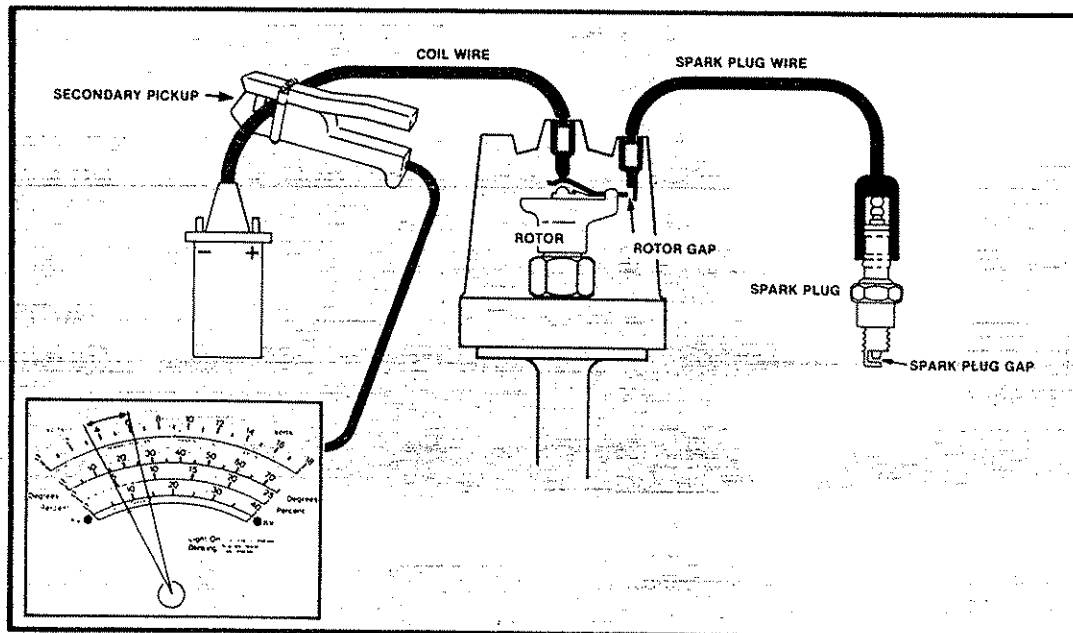
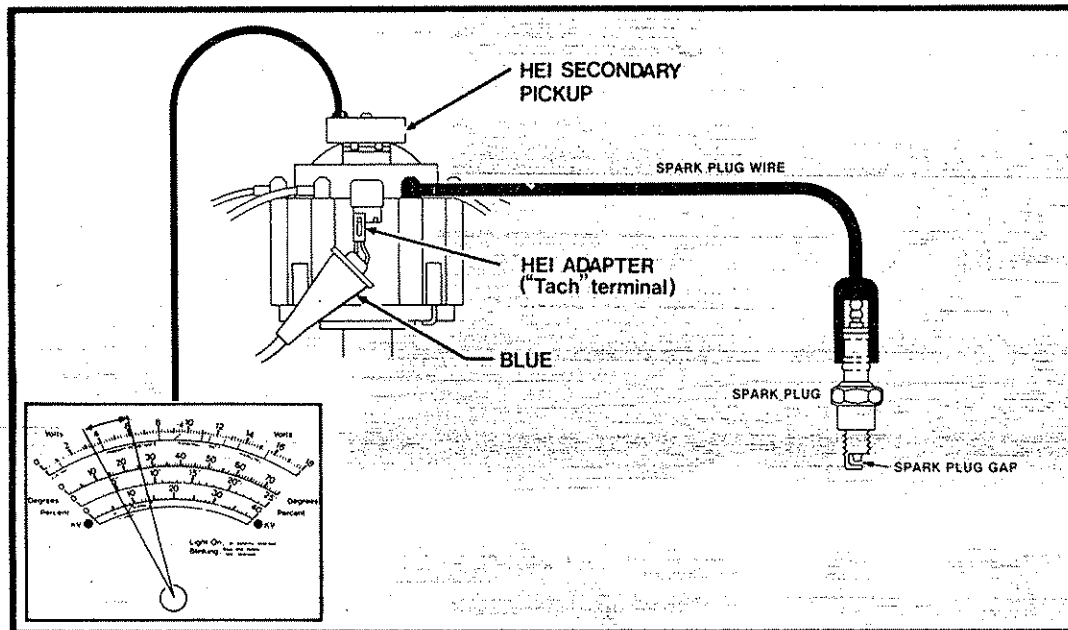

Figure 42
Figure 44
4. For Standard Ignition System connect as shown in figure 42, for HEI connect as shown in figure 44.
1. For Standard Ignition System connect as shown in figure 42, for HEI connect as shown in figure 44.
1. Connect the engine analyzer as shown in figure 42.